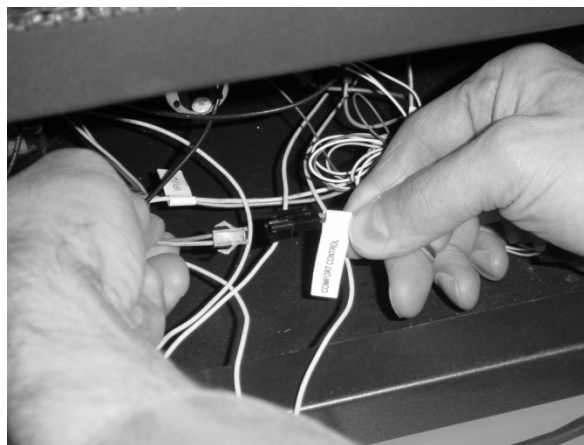

Figure 21
- Attach the wiring harness to the comfort control valve connection (see Figure 21).